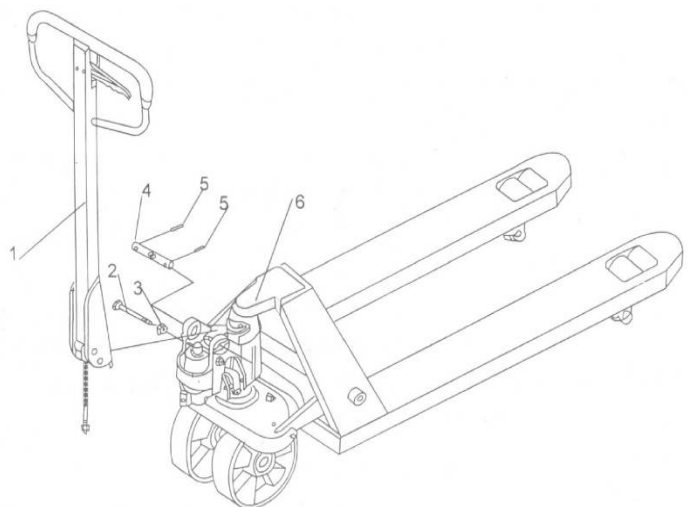

Fig.5 Tiller assembling
- c) Press the tiller arm down; take away the pin (2, Fig. 5).
- d) Set the control lever of the handle to 'RAISE' position, then raise the lever plate with the pin (2, Fig. 5) and insert the adjusting bolt into the front slot of lever plate. Note: Keep the adjusting nut under the lever plate.
- e) Use a hammer to insert the 2nd dowel pin (5, Fig. 5) into the 2nd hole of the axle. The draw-bar is now assembled to the pump.